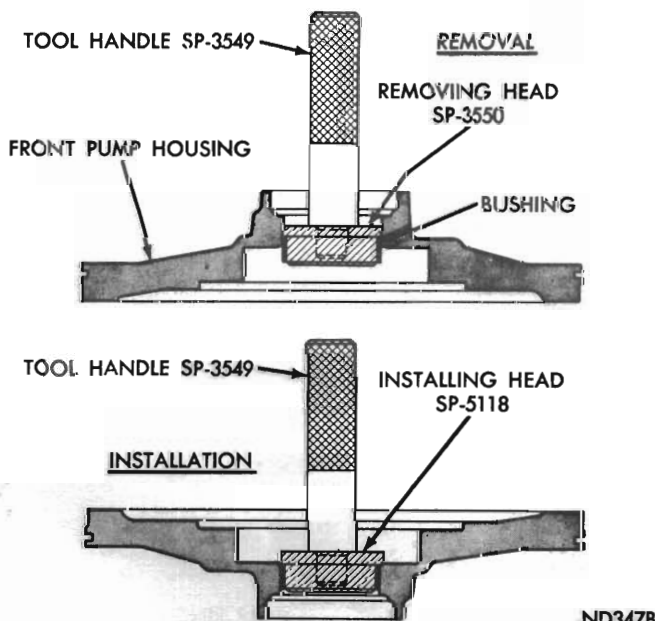
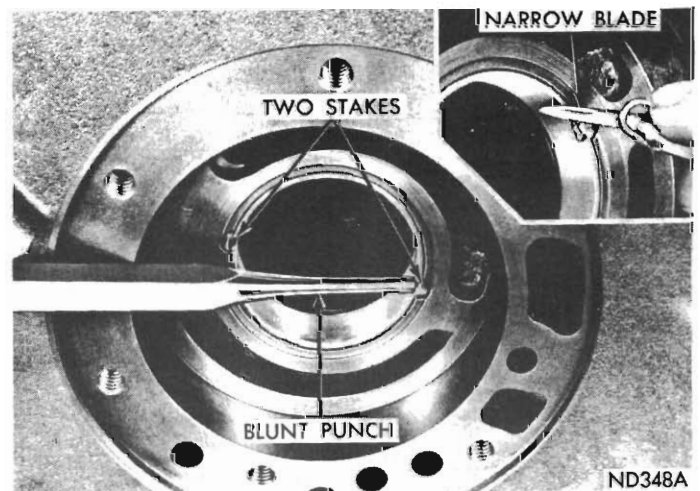

Fig. 67 - Replacing pump bushing (A-727)
Fig. 68 - Staking pump bushing (A-727)
(1) Place pump housing on a clean smooth surface with rotor cavity down.
(2) Place removing head Tool SP-3550 in the bushing, and install handle Tool SP-3549 in the removing head (Fig. 67).
(3) Drive bushing straight down and out of the bore. Be careful not to cock tool in the bore.
(4) Position a new bushing on installing head Tool SP-5118.
(5) With pump housing on a smooth clean surface (hub end down), start bushing and installing head in the bushing bore. Install handle Tool SP-3549 in installing head (Fig. 67).
(6) Drive bushing into housing until tool bottoms in the pump cavity. Be careful not to cock tool during installation.
(7) Stake the bushing in place by using a blunt punch or similar tool (Fig. 68). A gentle tap at each stake slot location will suffice.
(8) Using a narrow-bladed knife or similar tool, remove high points or burrs around staked area (Fig. 68). Do not use a file or similar tool that will remove more metal than is necessary.
(9) Thoroughly clean pump housing before installation.